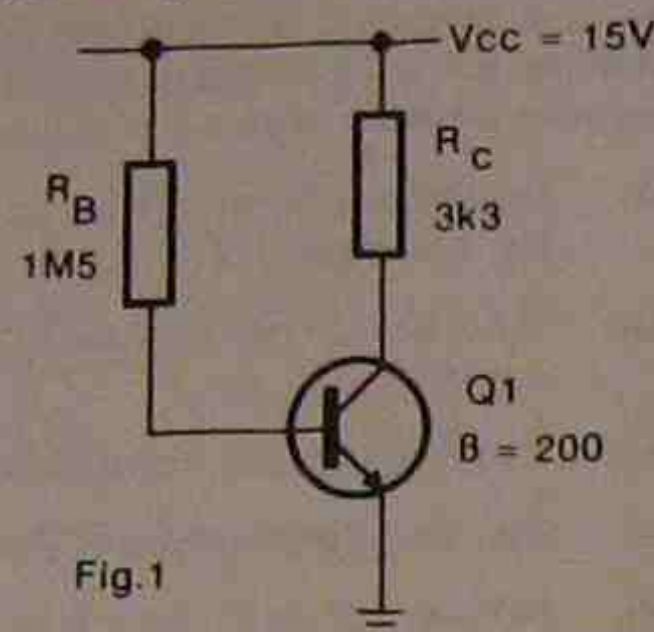

Fig.1
1. For the circuit of Fig.1, calculate the following, given that the current gain of the transistor is 200